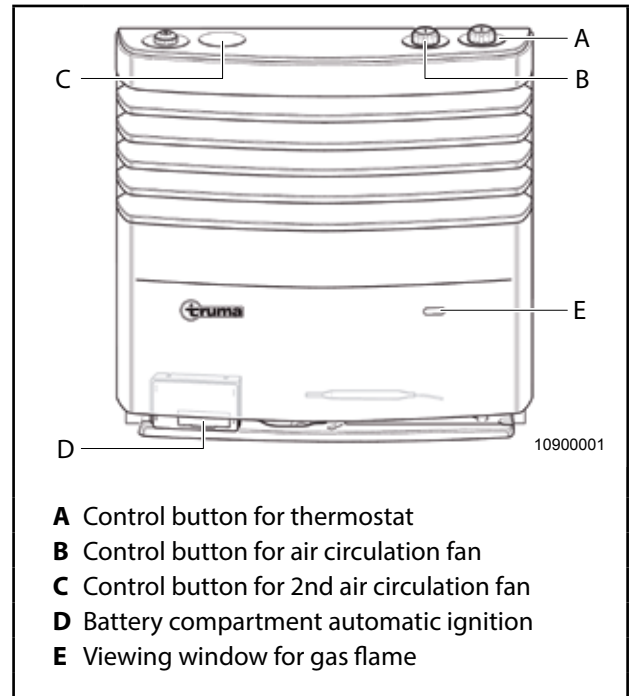
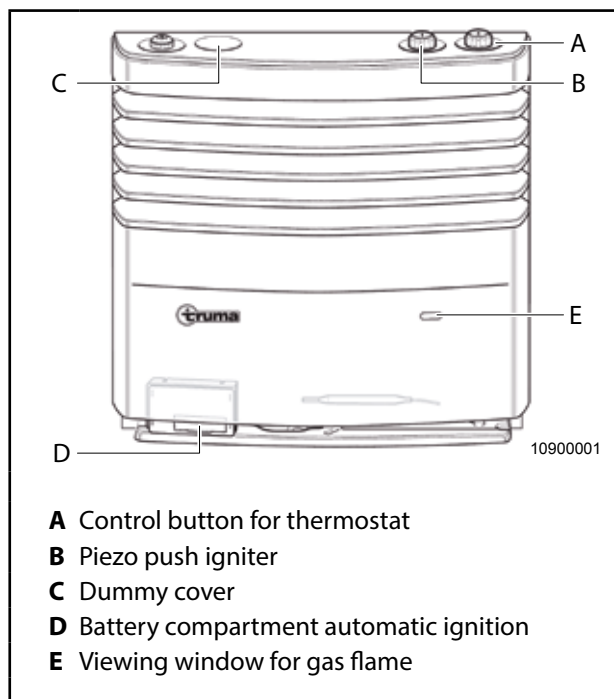

Fig. 69 S 3004/S 5004 gas heater (electric ignition)
Fig. 70 S 3004 P gas heater (Piezo ignition)
1. The thermostat control button (Fig. 69, item A and Fig. 70, item A) is used to set the room temperature which is automatically maintained by the built-in thermostat.
1. If the thermostat control knob (Fig. 69, item A and Fig. 70, item A) is set to "0", automatic ignition will be switched off automatically.
1. Remove the front panel, slide up the battery cover (Fig. 69) of the automatic ignition system and replace the battery. Observe polarity (Plus/Minus) of the battery.
1. If the rotary switch (**B**) is set to position “A”, the electronic system will automatically adjust the necessary blower output and limit the speed to the set value. The thermostat control element (Fig. 69, item A) can be used to limit the heating output, if required. Regulation takes place automatically between the value selected and slow running.
1. If the mode selector switch (2) is set to position (3) "man", the required blower output can be selected using the air circulation fan rotary switch (1).
2. If the mode selector switch (2) is set to position (5) "auto", stepless adjustment of the blower output to the output level of the heating will be performed. The thermostat control element (Fig. 69, item A) can be used to limit the heating output, if required. Regulation takes place automatically between the value selected and slow running.
3. If the mode selector switch (2) is set to position (4) "○", the air circulation fan is switched off.